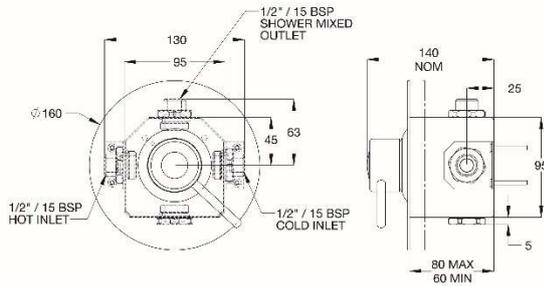

Figure 21 Inwall box rough-in details
1. Ensure the rough in details have been followed to allow correct fitment of the Progressive Shower unit (see figure 21). The unit must be mounted so that the inlets are horizontal, and the outer plastic box of the Progressive shower is proud of the finished wall (to a maximum 20mm).